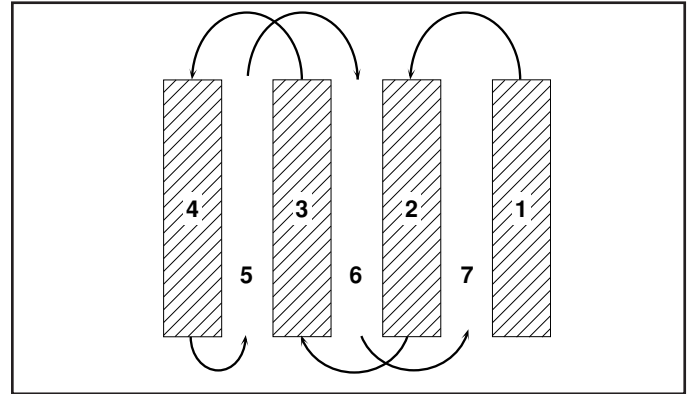

Fig. 8
- You will find tilling much easier if you leave a row untilled between passes. Then go back between tilled rows. (See Fig. 8) There are two reasons for doing this. First, wide turns are much easier to negotiate than about-faces. Second, the tiller won't be pulling itself, and you, toward the row next to it.